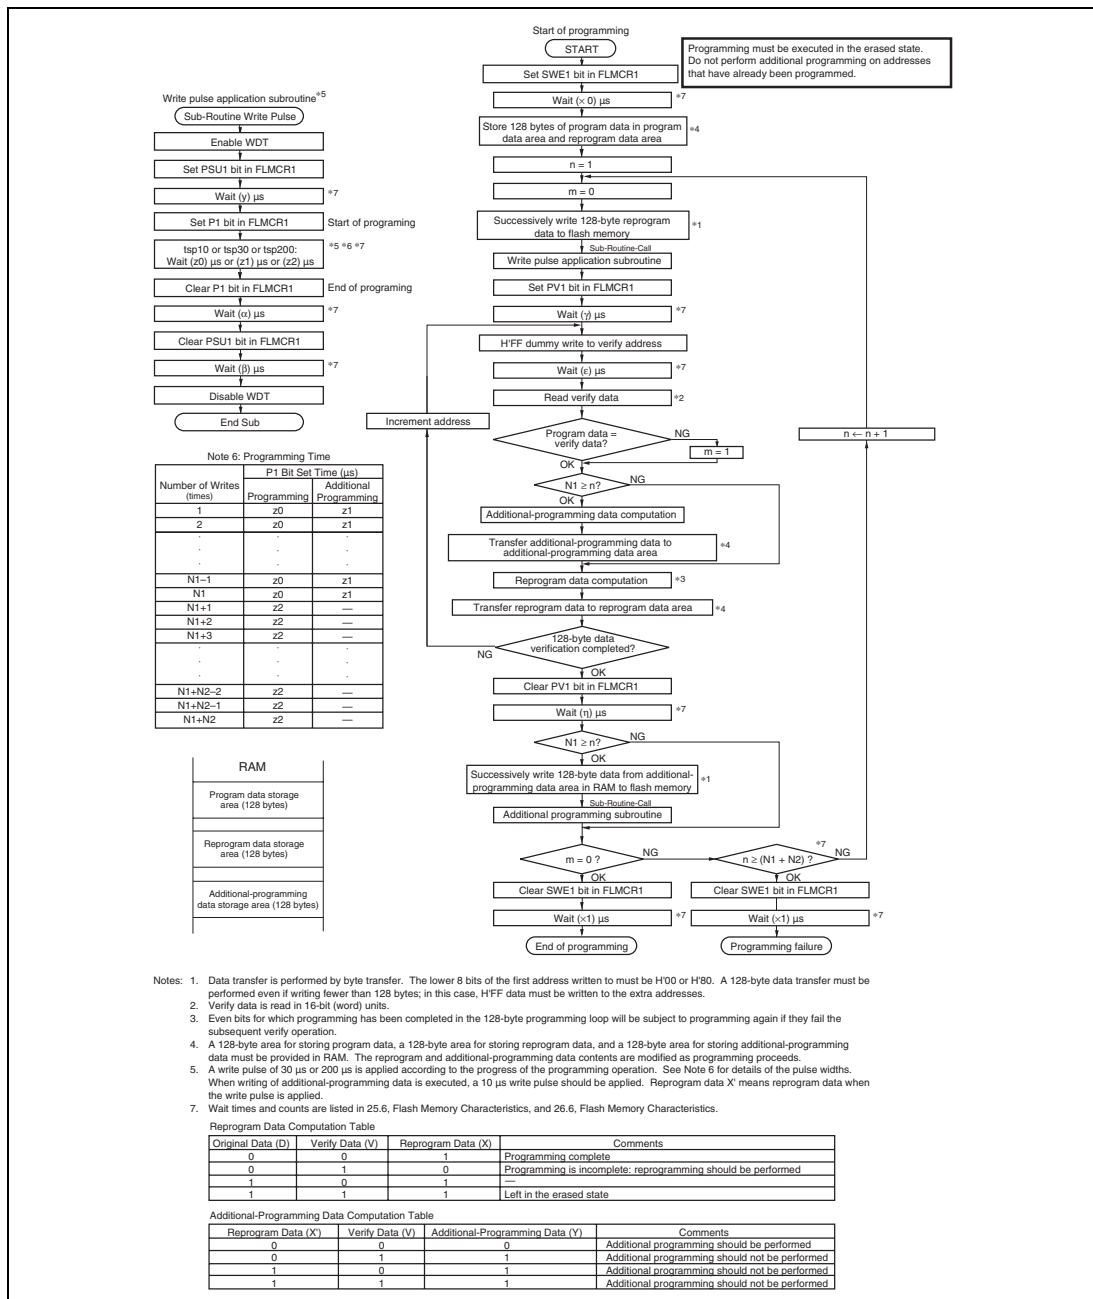

Figure 22.13 Program/Program-Verify Flowchart
When writing data or programs to flash memory, the program/program-verify flowchart shown in figure 22.13 should be followed. Performing program operations according to this flowchart will enable data or programs to be written to flash memory without subjecting the device to voltage stress or sacrificing program data reliability. Programming should be carried out 128 bytes at a time.
Next, the watchdog timer is set to prevent overprogramming in the event of program runaway, etc. Set a value greater than ($y + z2 + \alpha + \beta$) ms as the WDT overflow period. After this, preparation for program mode (program setup) is carried out by setting the PSU1 bit in FLMCR1, and after the elapse of (y) μ s or more, the operating mode is switched to program mode by setting the P1 bit in FLMCR1. The time during which the P1 bit is set is the flash memory programming time. Refer to the table in figure 22.13 for the programming time.
After the elapse of the given programming time, clear the P1 bit in FLMCR1, then wait for at least (α) μ s before clearing the PSU1 bit to exit program mode. After the elapse of at least (β) μ s, the watchdog timer is cleared and the operating mode is switched to program-verify mode by setting the PV1 bit in FLMCR1. Before reading in program-verify mode, a dummy write of H'FF data should be made to the addresses to be read. The dummy write should be executed after the elapse of (γ) μ s or more. When the flash memory is read in this state (verify data is read in 16-bit units), the data at the latched address is read. Wait at least (ϵ) μ s after the dummy write before performing this read operation. Next, the originally written data is compared with the verify data, and reprogram data is computed (see figure 22.13) and transferred to RAM. After verification of 128 bytes of data has been completed, exit program-verify mode, wait for at least (η) μ s, then clear the SWE1 bit in FLMCR1. If reprogramming is necessary, set program mode again, and repeat the program/program-verify sequence as before. The maximum number of repetitions of the program/program-verify sequence is indicated by the maximum programming count ($N1 + N2$). However, ensure that the program/program-verify sequence is not repeated more than ($N1 + N2$) times on the same bits.
- a. After write pulse application, perform a verify-read in program-verify mode and apply a write pulse again for any bits read as 1 (reprogramming processing). When all the 0-write bits in the 128-byte write data are read as 0 in the verify-read operation, the program/program-verify procedure is completed. In the H8S/2633, the number of loops in reprogramming processing is guaranteed not to exceed the maximum value of the maximum programming count (N).
6. The program/program-verify flowchart for the H8S/2633 is shown in figure 22.13.